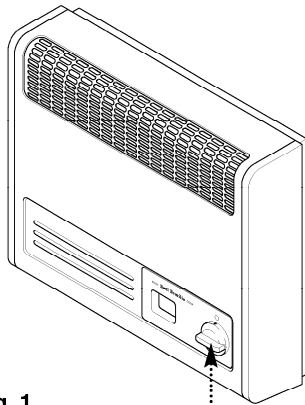

Fig. 1
1. The appliance is controlled by a knob which is positioned at the lower right on the front of case (Fig. 1). The knob has five positions: